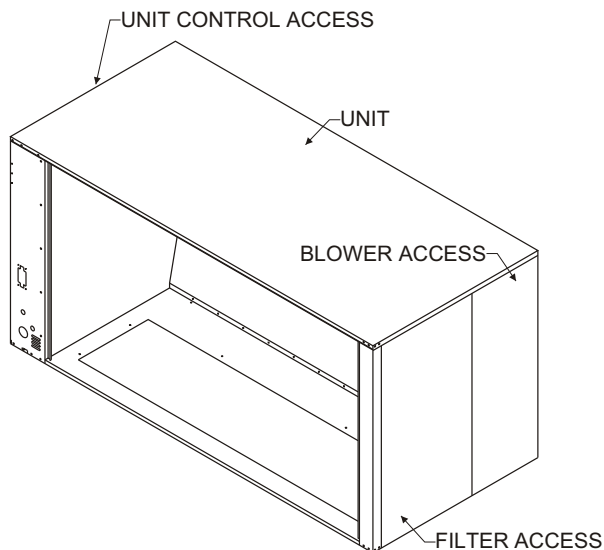

Figure 3
2. Remove the following parts shipped with the air conditioning unit (save screws): **See Figure 3.**